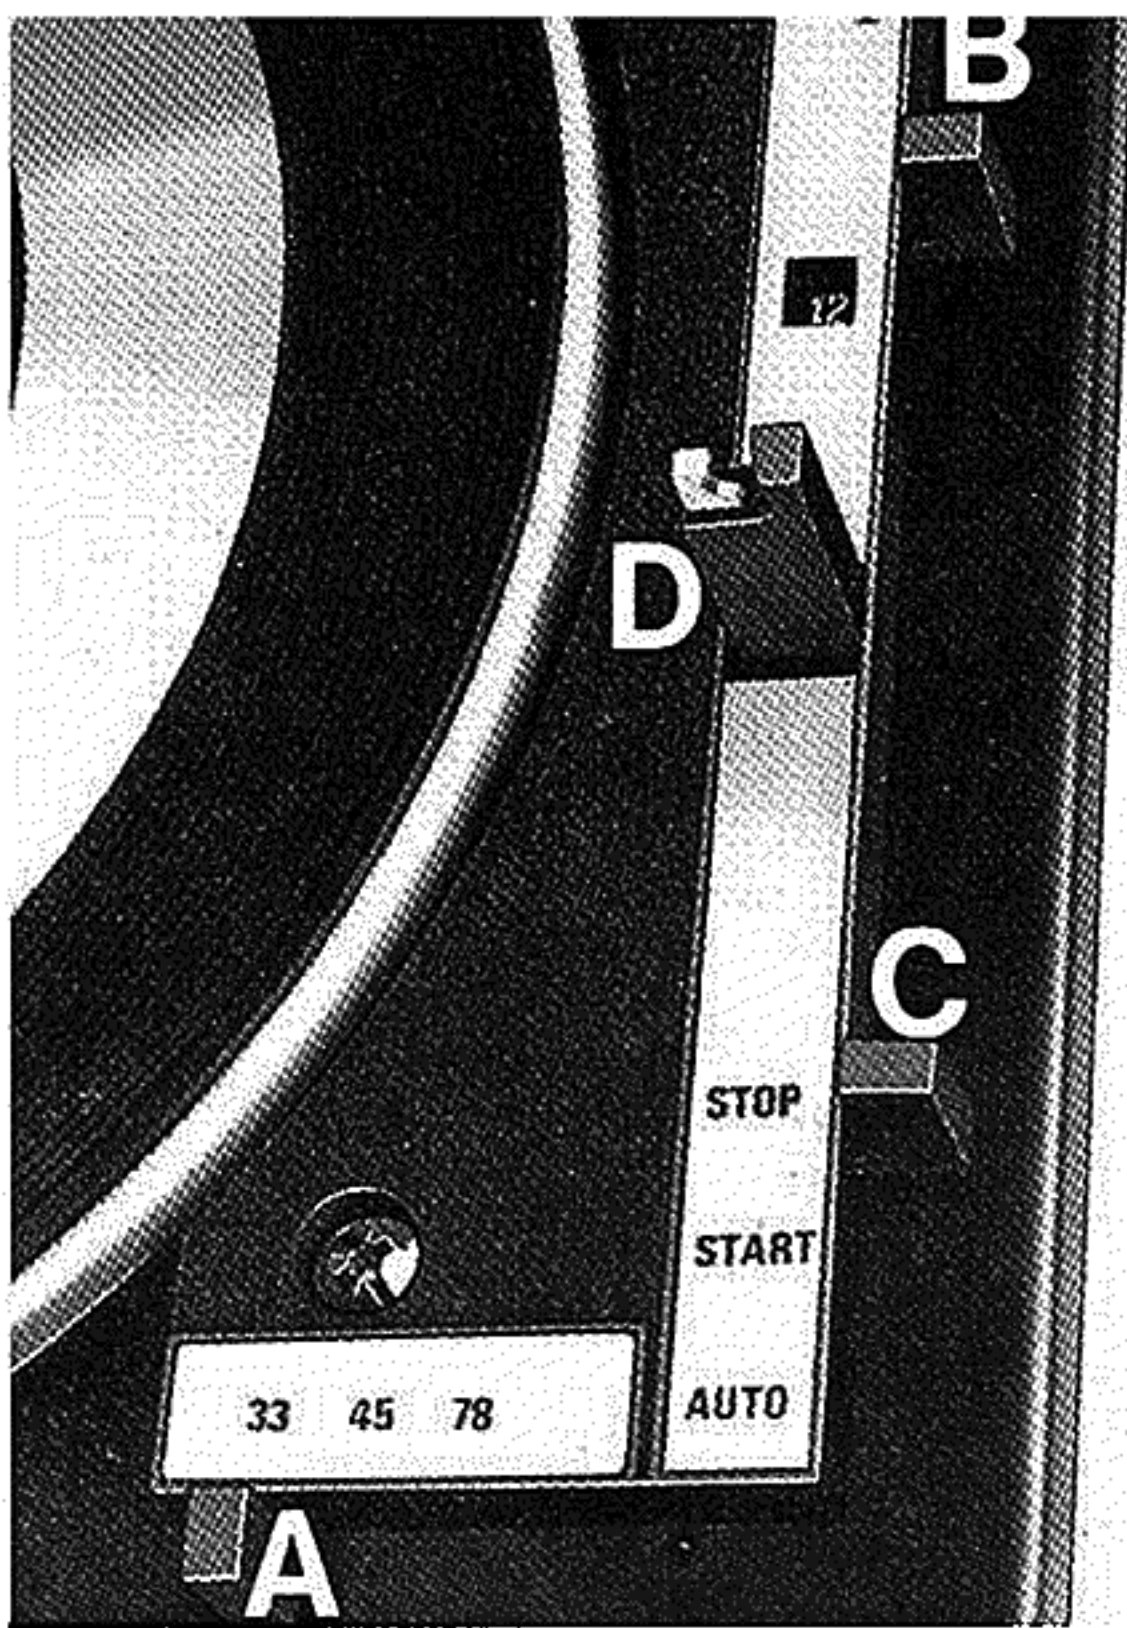
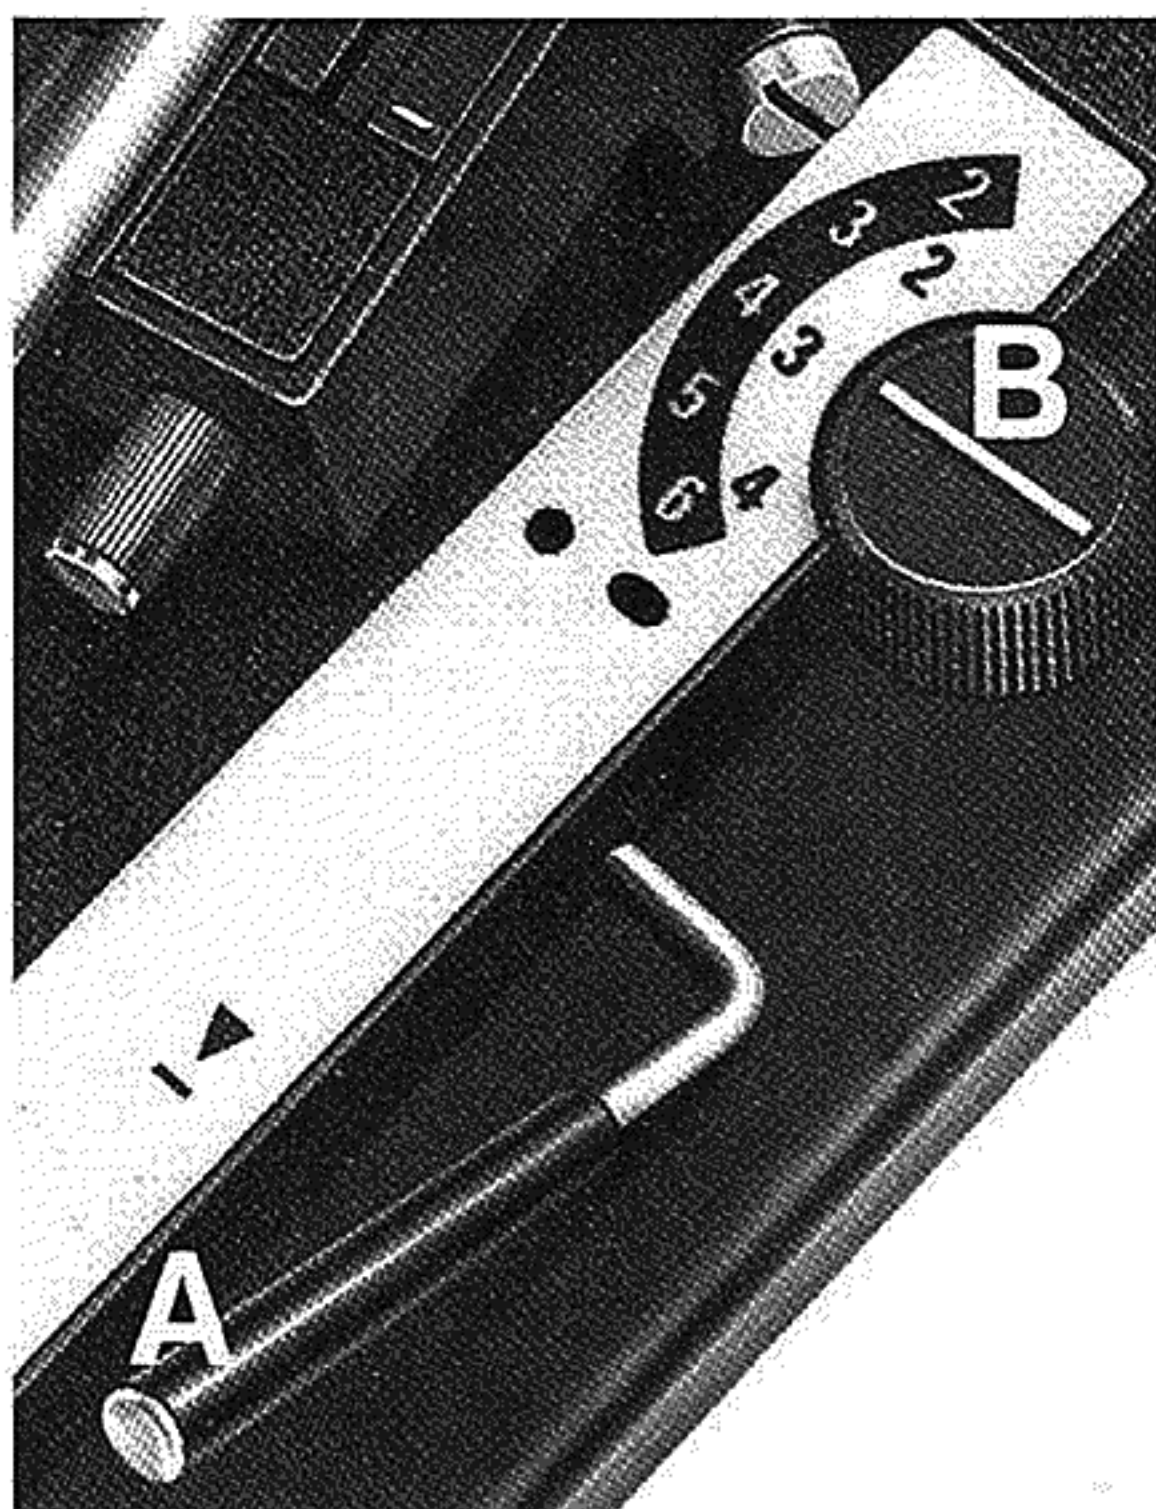

Fig. 1 CONTROL PANEL WITH AUTOMATIC PICK-UP LOCK
Fig. 2 CUEING LEVER AND BIAS COMPENSATOR
3. To Start. Move the starting lever (Fig. 1, C) to the AUTO position and hold there momentarily until the turntable revolves, then let it return gently to the START position.
5. To Stop. After playing the last record the unit will shut off automatically. If it becomes necessary to stop the unit during play, raise the cueing lever (Fig. 2, A) and move the pick-up arm above the pick-up rest (Fig. 1, D), lower the cueing lever and move the starting lever to the STOP position.
NOTE: To interrupt the record, raise the cueing lever (Fig. 2, A) to lift the pick-up arm. When the cueing lever is lowered, the pick-up will descend to the record and resume playing in the same groove.
- (a) Move the speed control (Fig. 1, A) against the required speed.
- (b) Set record size selector (Fig. 1, B)
2. Pick-up Arm Bias Compensator. Having set the required stylus pressure, the bias compensator (Fig. 2, B) is adjusted to a figure corresponding to the stylus pressure applied. The control is continuously adjustable so settings between the figures indicated are possible.